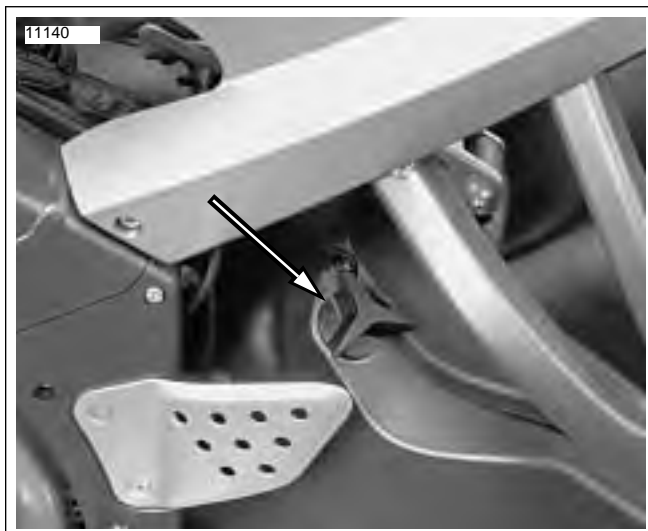

Figure 1-5. Dipstick Location
4. See Figure 1-5. Unscrew and remove dipstick and note oil level.
3. See Figure 1-5. Unscrew and remove dipstick from oil fill hole on top of oil tank/swingarm.